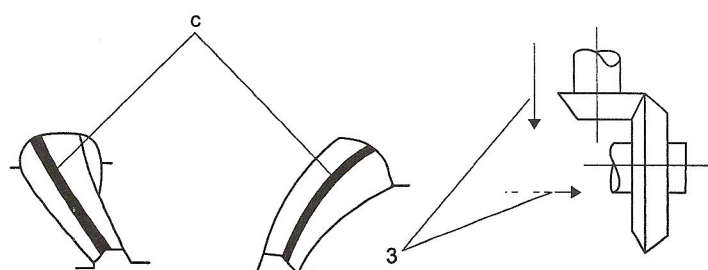

Fig. 05-48
- (3) In case the engagement trace is like what is shown as (c), then move the driving gears towards the driven gears. If finding the clearance is too little, then move the driven gears out-wards. The direction for moving gears is shown in (3) (See Fig. 05-48).